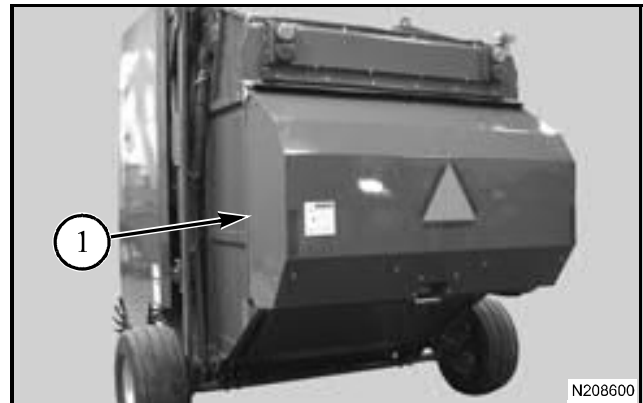

FIG. 12
FIG. 12: The baler is available with an optional mesh wrap system (1) in addition to the twine system. The mesh wrap assembly is mounted on the rear of the baler.